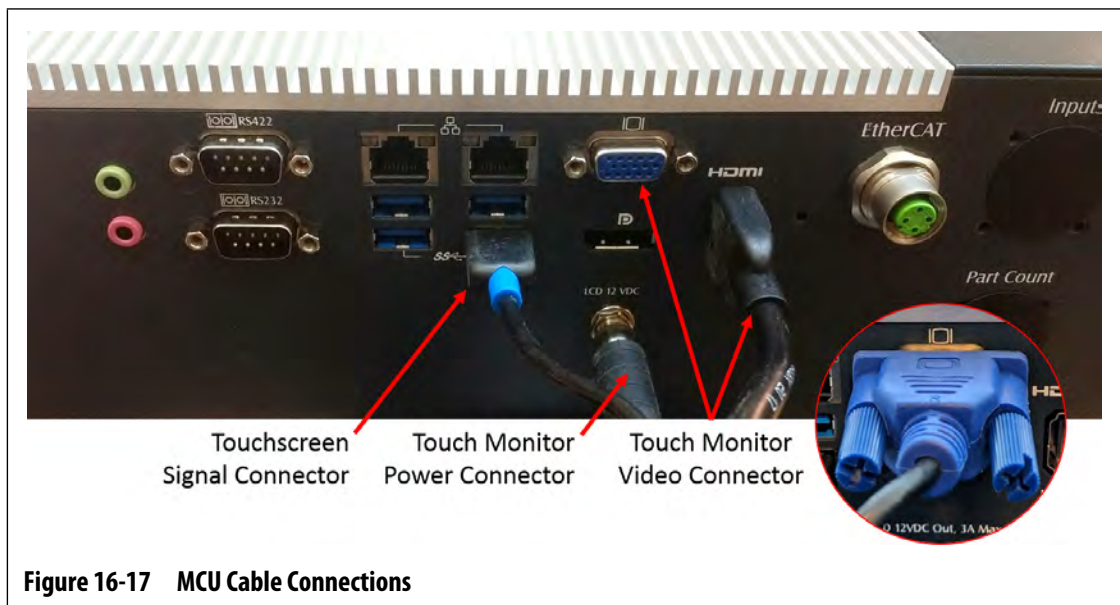

Figure 16-17 MCU Cable Connections
3. Find and disconnect the Touch Screen Signal, Touch Monitor Power, and VGA or LCD1 (HDMI) connectors at the bottom of the MCU enclosure. Refer to Figure 16-17.